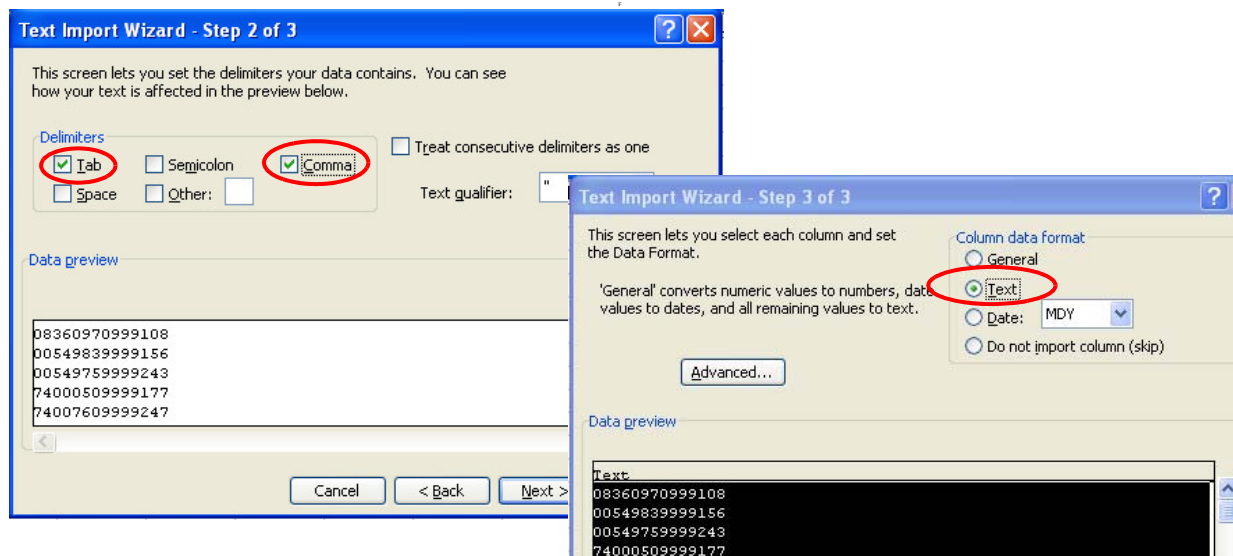

Figure 4-38 Select Delimiters and Format
- Excel wizard steps 2 and 3 require you to select the delimiter type (click on both Tab and Comma) and the data format (click on Text). See Figure 4-38.